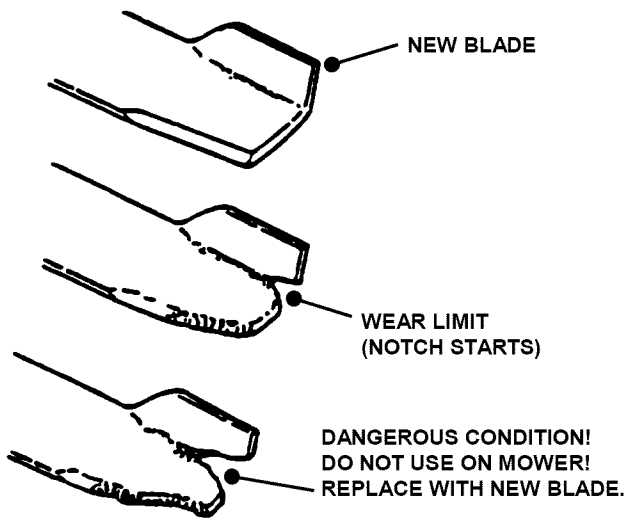

FIGURE 4.5
1. Inspect blade frequently for signs of excessive wear or damage. See Figure 4.5.
<p>DO NOT use a cutting blade that shows signs of excessive wear or damage. Refer to Figure 4.5. Wear heavy leather gloves when handling or working around cutting blades. Blades are extremely sharp and can cause severe injury.</p>
2. Inspect condition of blade. Refer to Figure 4.5.
5. Reinstall blade. See Figure 4.5. Torque blade mounting bolts to recommended range of 70 to 80 ft. lbs.